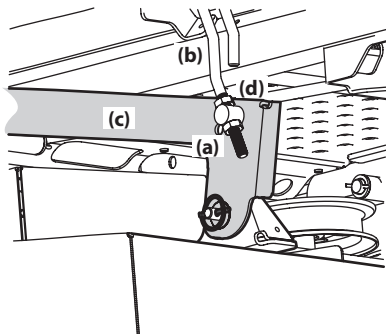

Figure 4-10
3. Loosen the lower nut (a) on the adjustable lift link (b) attached to the deck lift arm (c) to lower the deck and tighten the upper nut (d) to secure the deck in place, loosen the upper nut (d) then tighten the lower nut (a) to secure the deck in place. See Figure 4-10.